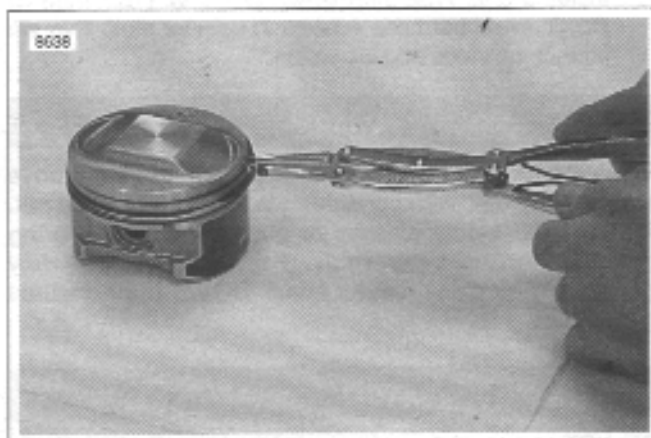

Figure 3-94. Removing Piston Rings
9. See Figure 3-94. To remove piston rings spread outward until they clear grooves in piston and lift off.